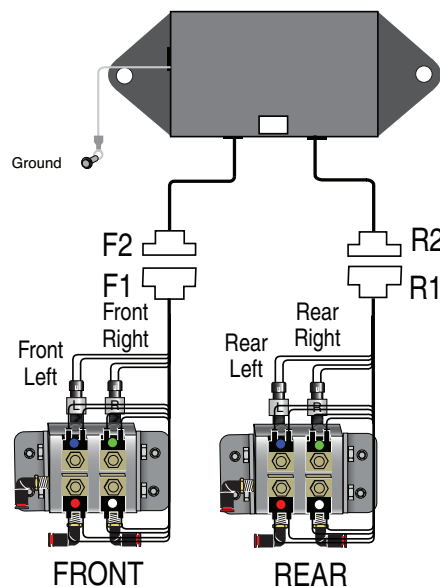

fig. 12
4. Attach the corresponding connectors from the ECU to the manifold (Fig. 12).